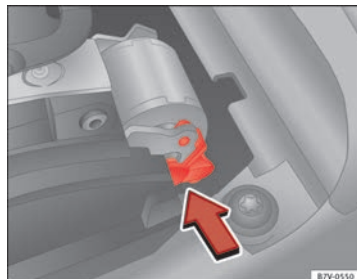

Fig. 198 Manual release of gear selector lever.
- Press the release lever ⇒ fig. 198 in the direction of the arrow and hold it in this position.